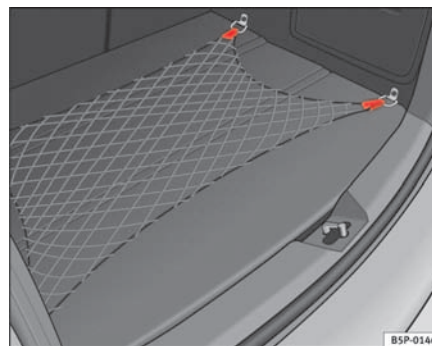

Fig. 106 Retaining net
- Use the fastening rings located on the side of the luggage compartment to attach the retaining net⇒ fig. 106